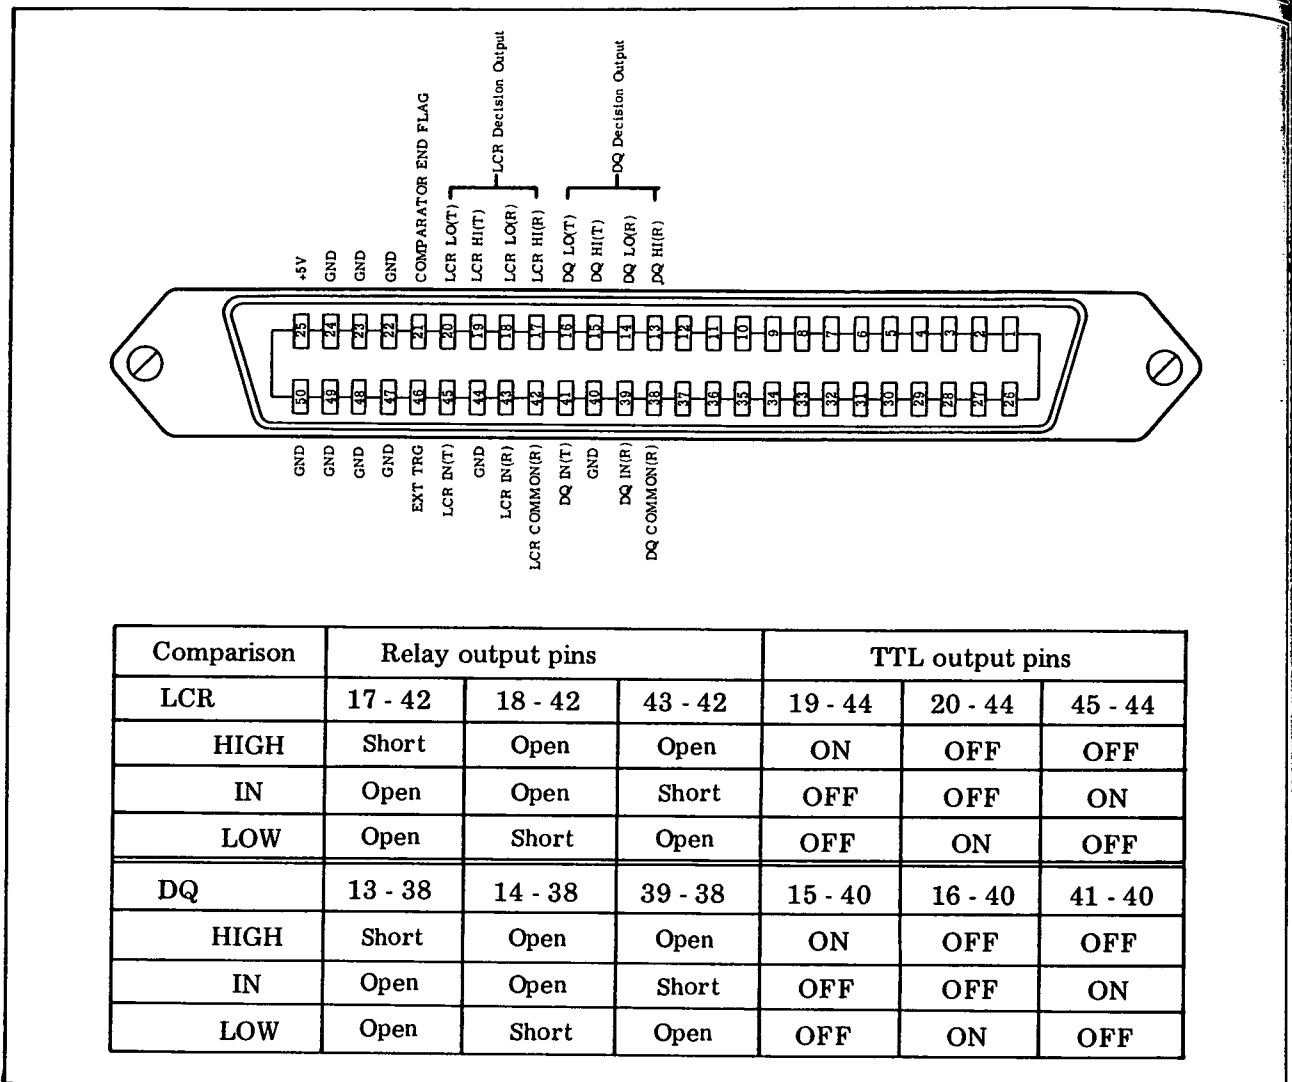

Figure 4-9. DATA OUTPUT (J6) comparator output data format.
8. LOW lamp should be lit. Verify circuit configuration on COMPARATOR OUTPUT connector (J6) according to Figure 4-9.
15. Set appropriate numbers into D/Q LIMIT switches. Change the set numbers and check comparison outputs with Figure 4-9.